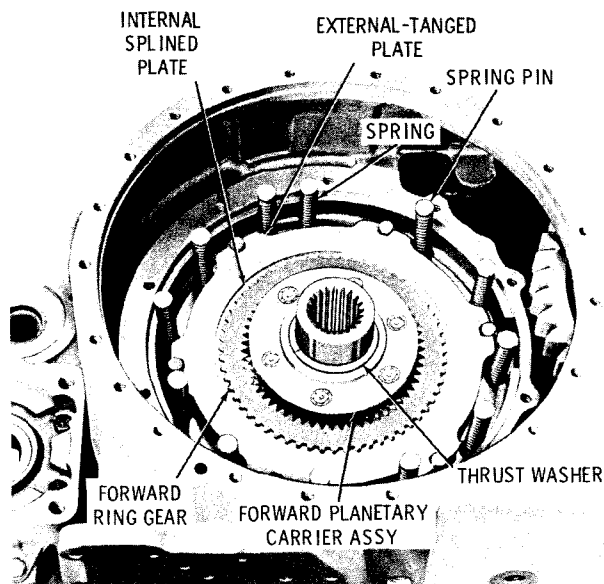

Fig. 5-27. Forward clutch and planetary
(4) Remove the forward clutch piston housing and clutch piston, as an assembly. Remove the clutch piston from the piston housing. Refer to paragraph 6-11 for rebuild of the clutch piston.
(5) Remove the twelve piston return springs and pins (fig. 5-27).
(1) Remove the forward ring gear, one external-tanged clutch plate and one internal-splined clutch plate (fig. 5-27). The plates come with the ring gear when it is removed. Remove the two remaining internal-splined clutch plates and two external-tanged clutch plates.
(2) Remove forward planetary carrier assembly 3 (A, foldout 9) and reverse planetary ring gear 1, as an assembly. Remove the snapping and separate the ring gear from the carrier assembly.
(3) Remove the forward and reverse sun gear, and thrust washer if not removed in (2), above (fig. 5-27).
(4) Remove the bolt and flat washer which were installed temporarily when the control valve assembly was removed (refer to 5-3f(2), above).
(5) Remove the forward and reverse clutch anchor assembly 18 (B, foldout 8) and clutch anchor pin 24 (B, foldout 7).